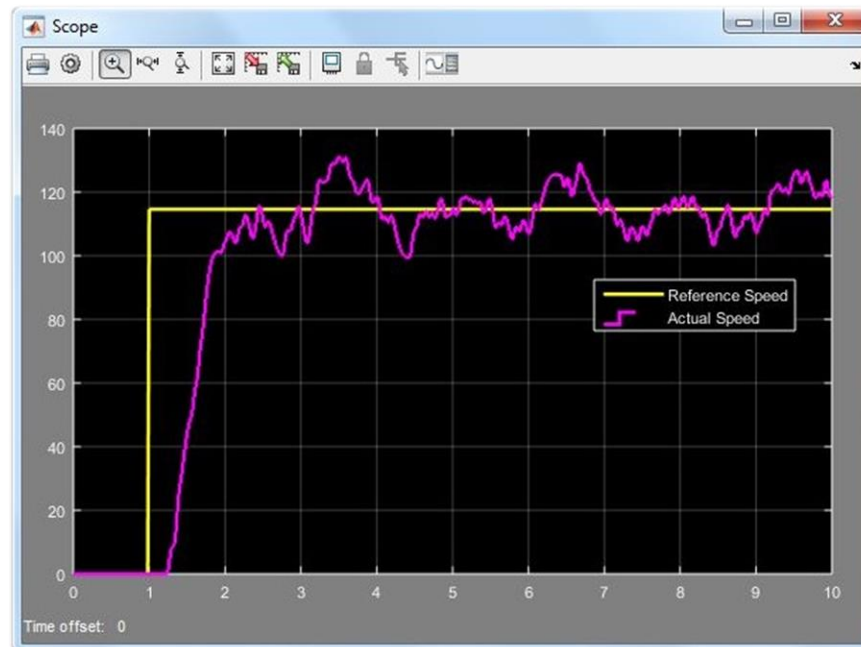

Figure 47 – Reference speed v/s measured speed with the tuned controller - Hardware
Observe that the actual EV3 robot hardware with the controller tracks the step input pretty well (Figure 47). The difference between the performance on the real hardware and our simulation, can be attributed to our simplistic DC motor simulation model. For e.g. we have not modeled the friction in the motor. The next logical step would be to add this detail and use our simulation model to get a better controller.
Our desired response behavior is depicted by the white back-ground in Figure 47. Our objective is to tune our controller to ensure that it reaches our desired set-point faster by staying in the white region. If the response of the system falls outside the white region it may over-shoot too much or track the desired reference point too slowly. The darkened area in the plot depict "forbidden" zones. Our desired
2. Examine that with the current PID values have clearly failed to meet our performance objectives as shown in Figure 47. The actual output passes through the darkened region and is out of bounds.